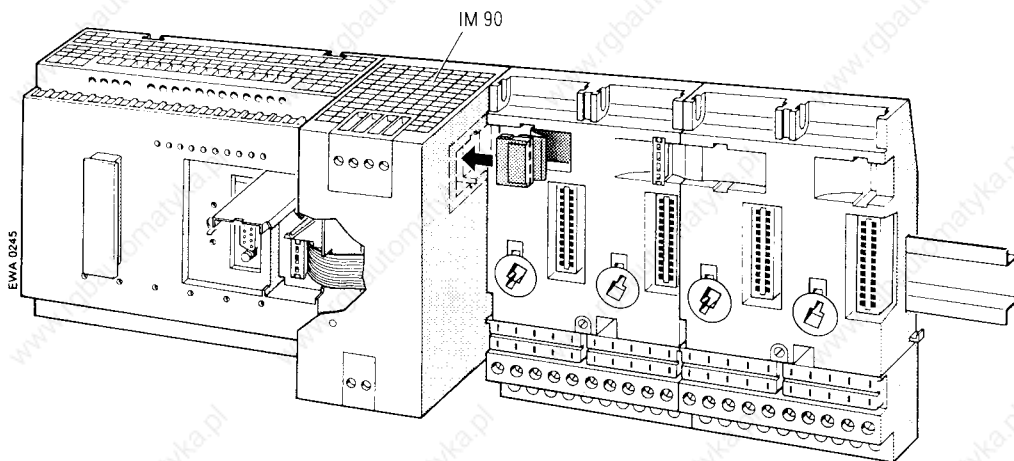

Figure 3-6. Connecting the IM 90 to the S5-90U and the Bus Unit
- ▶ Plug the connector into the receptacle on the right side of the PLC or into the receptacle of the adjacent bus unit on the left side (see Figure 3-6).
- ▶ Connect the plug to the S5-90U's plug connector (see Figure 3-6).
- ▶ Connect the plug to the plug connector on the right side of the IM 90 (see Figure 3-6).